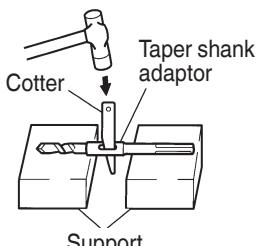

Fig. 14
- (2) Turn the power on and drill a base hole.
- (3) After cleaning out dust with a syringe, attach the plug to the anchor tip and drive in the anchor with a manual hammer.
- (4) To remove the drill bit with taper shank, insert a cotter into the slot of the taper shank adaptor, place supports under the Rotary Hammer and tap the cotter with a manual hammer. (Fig. 14)